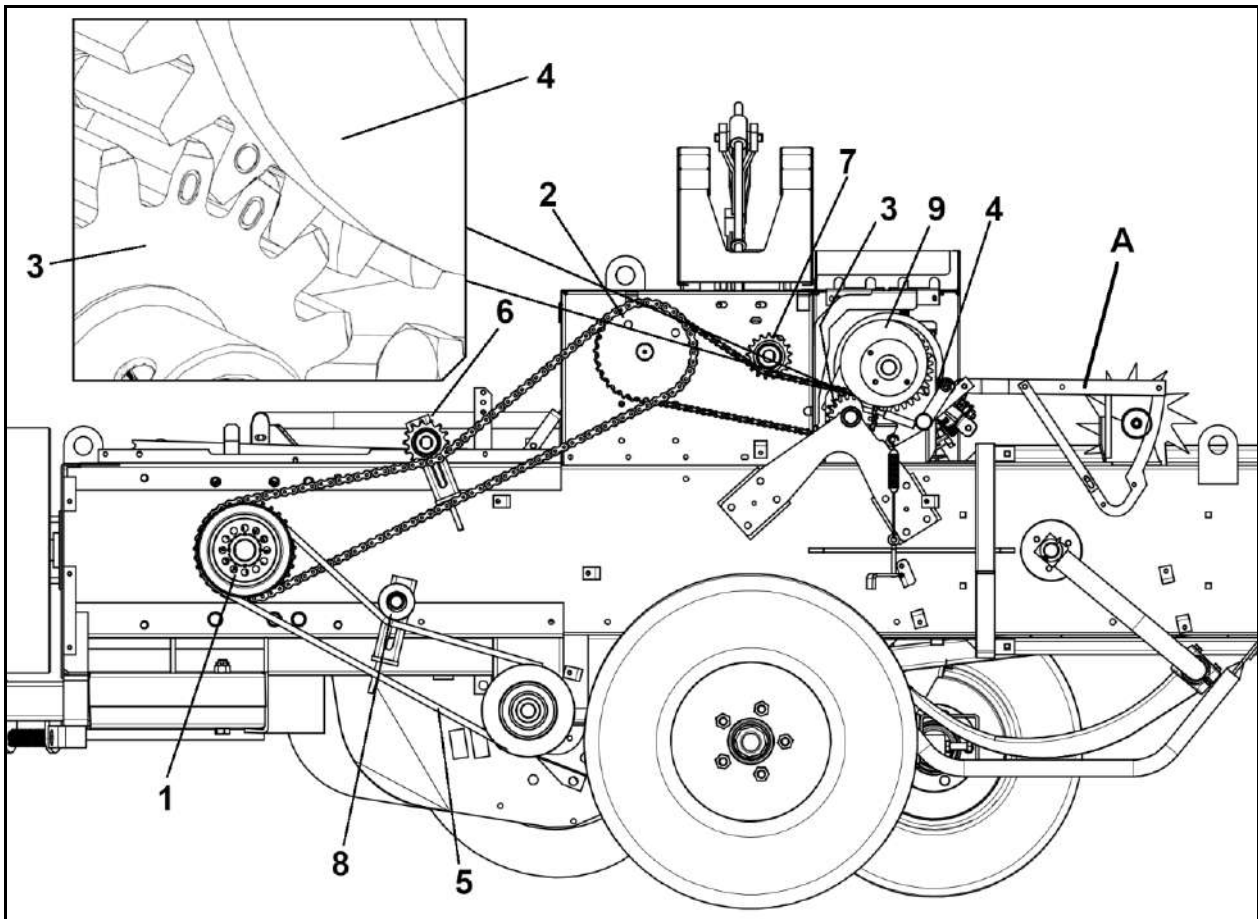

Fig. 6.4
V-belt, C profile DIN 2211 (ref. 5, Fig. 6.4)
This belt (ref. 5, Fig. 6.4) should never slip during normal baler operation.
This means locking the lever A (Fig. 6.4) in the low position as shown in the figure: